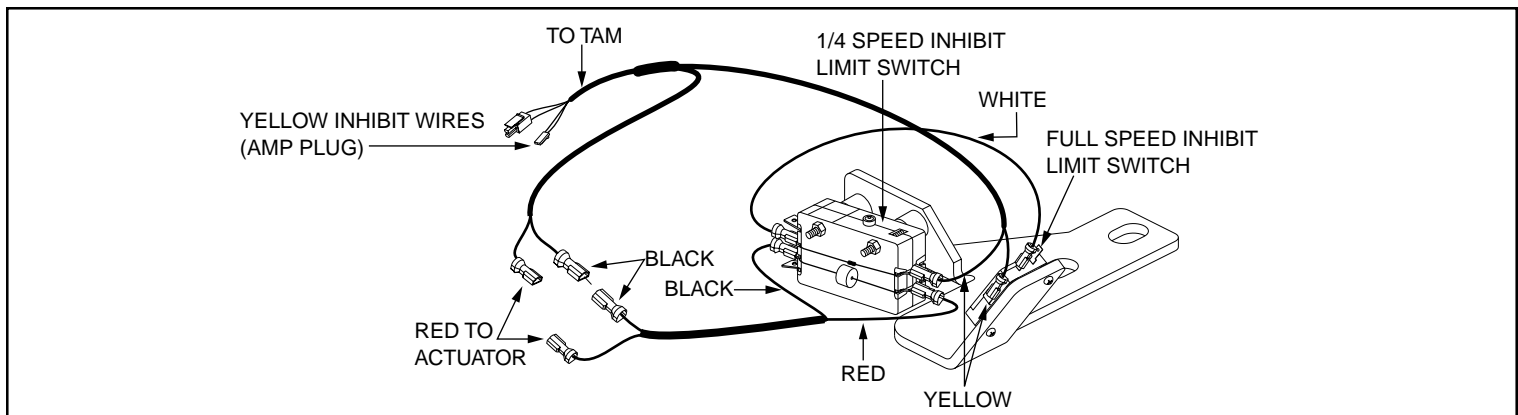

Figure 4.59. Limit Switches and Wiring Harnesses
1. Locate the two limit switches under the seat of the power chair and verify that the wiring harnesses are correctly connected to the limit switches. See figure 4.59.